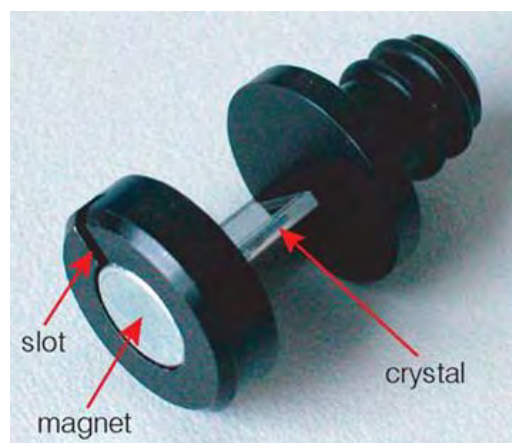

Figure 3.8.: Crystal module
5. Insert new crystal module (ensure slot on crystal module fits into pin of container) (see Figure 3.8).